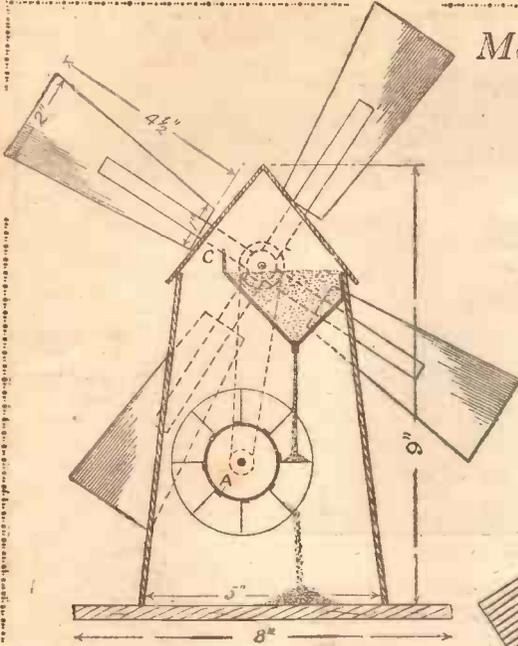

Fig. 2. Diagram showing how the various parts fit together.
**T**HIS interesting toy, in the form of a windmill, can easily be constructed from a few pieces of cardboard, a wooden knitting needle and a piece of wood for the base. It will be seen, by referring to Fig. 2, that the sails are driven by a sand-wheel, on the shaft of which is mounted a little pulley-wheel. This is connected to another pulley on the sail shaft by means of a band of strong thread or very fine string. Just below the sail shaft is fixed a sand-hopper, and the flow of sand from this, like that of an egg-timer, falls on to the blades of the sand-wheel, causing it slowly to revolve. As the driving power is very small, all the working parts of the toy must be made as light as possible.
and then, from a strip 4 1/2 in. long and 1 1/2 in. wide, form the centre part A, 1 1/2 in. diameter, and glue this between the two discs. Now cut eight pieces for the blades, each measuring 1 1/2 in. by 2 in., and across one of the long edges of each piece turn up a flange 1/4 in. wide, as shown at B. These parts are glued in place as depicted in Figs. 2 and 5. In order to get the blades evenly distributed around the wheel, it would be as well to mark carefully the eight positions on the insides of the wheel discs before these are glued to the centre barrel.
of the mill-house in the position shown in Figs. 2 and 3.